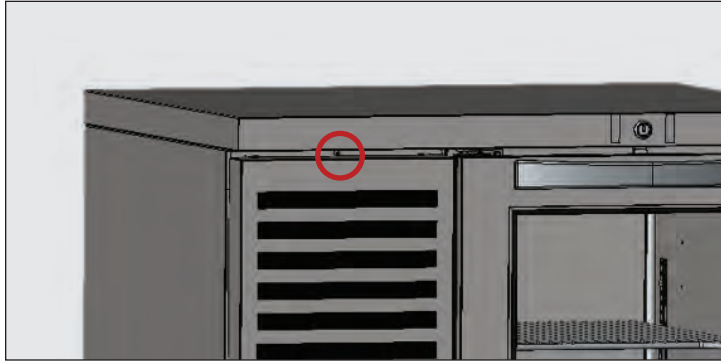

Fig. 1. Louver grill screw location.
2. Remove the screw securing the louvered grill to the cabinet. See fig. 1.